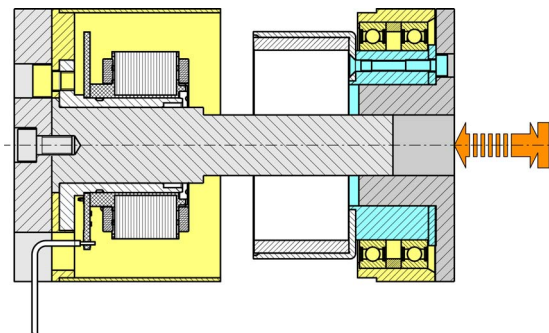

Figure 3-17 Joining stator and rotor
- Be aware that while approaching the two parts, rotor and stator will all of a sudden magnetically attract each other in a forceful manner. Therefore, hold against the axially moving part at all times (→ Figure 3-17).